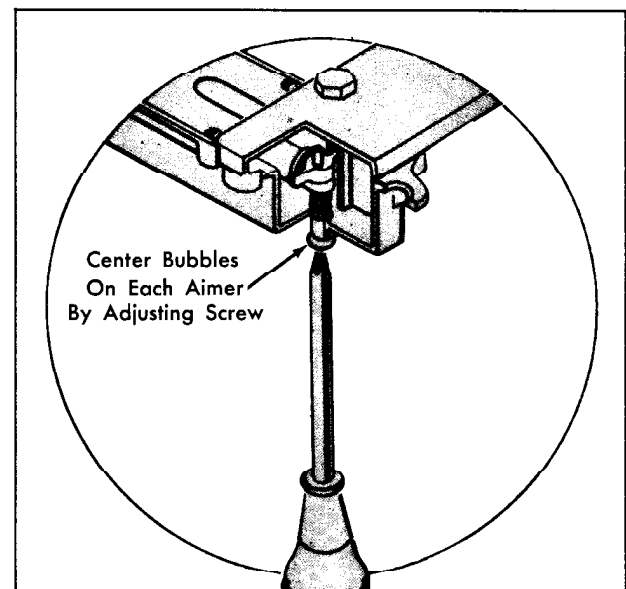

Fig. 13-87 Adjusting Aimer
- Without moving the car, recalibrate aimers by turning the adjusting screw until bubble is centered. (Fig. 13-87)
- If the bubble is not centered, adjust the screw on the bottom of the aimer, Fig. 13-87, until the bubble is centered. The aimer is now calibrated vertically.